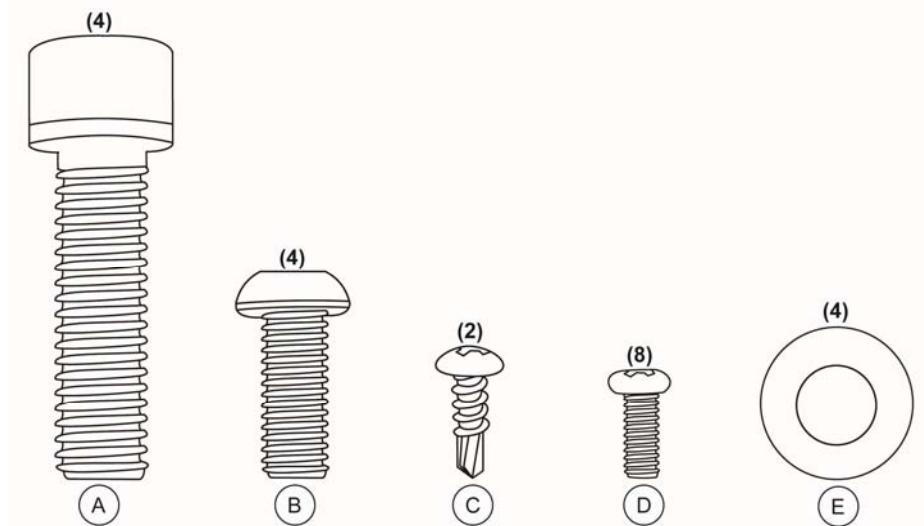

Figure 1
- (2) Covers for Display Support (Front & Back)
- Hardware for assembly (see Figure 1 on page 9)
4. Position the center handrail over the left and right handrail supports on the platform. Fasten the handrail to the platform using (4) M8 1.25 x 3/8 screws (B) and (4) M8 washers (E). Use the 5mm Allen wrench to tighten the screws. Do not over tighten (see Figures 1, 2 & 4 on pages 9 & 10).
5. Loosely attach the left and right side handrails to the center handrail, using (4) M10 1.5 x 1 1/2 screws (A). Use the 8mm Allen wrench to fasten the screws (see Figures 1 & 2 on page 9).
13. Align the four mounting holes on the back of the display assembly with the four mounting holes in the display support. Fasten the display assembly onto the metal display support by using (4) Phillips pan head M4 screws (D). Use Phillips head screwdriver to tighten the screws (see Figures 1 & 5 on pages 9 & 10).
14. Place the pivot bracket screw covers over the pivot screws. Fasten the covers to the back of the display using (4) Phillips pan head M4 screws (D). Use Phillips head screwdriver to tighten the screws (see Figures 1 & 5 on pages 9 & 10).
15. Attach the adapter holder to the center rail using (2) #8 x ½ sheet metal screws (C). Use Phillips head screwdriver to tighten the screws (see Figures 1 & 2 on page 9).